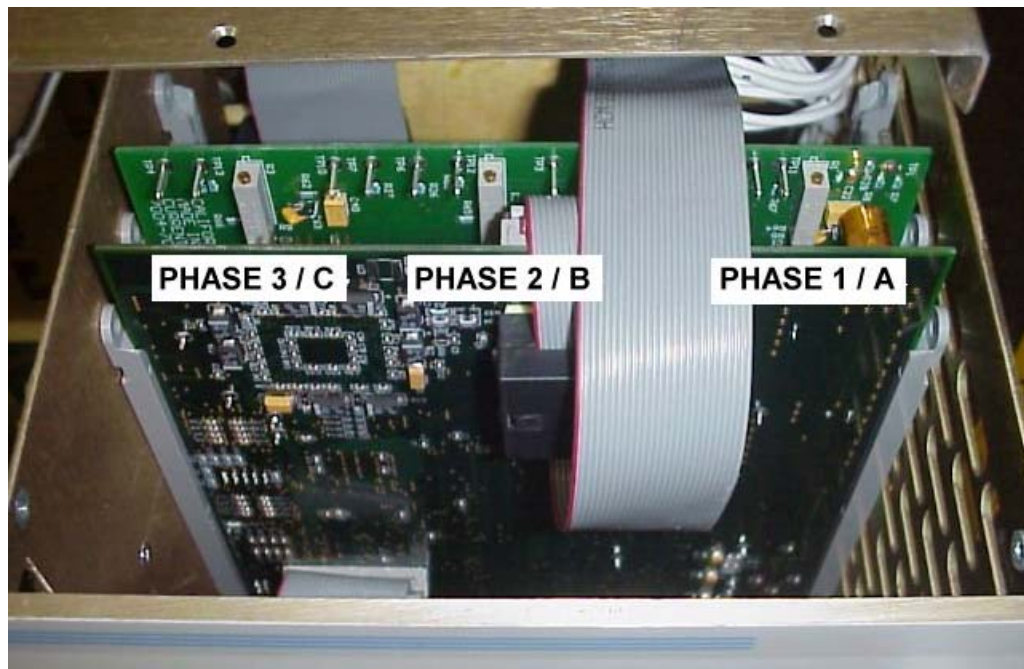

Figure 6-1: Location of Gain pot adjustments
1. Loosen the top cover and slide back until the Current Limit board assembly (P/N 7004-703-3) is uncovered. This is the vertical board directly behind the CPU/Controller board. Refer to Figure 6-1.